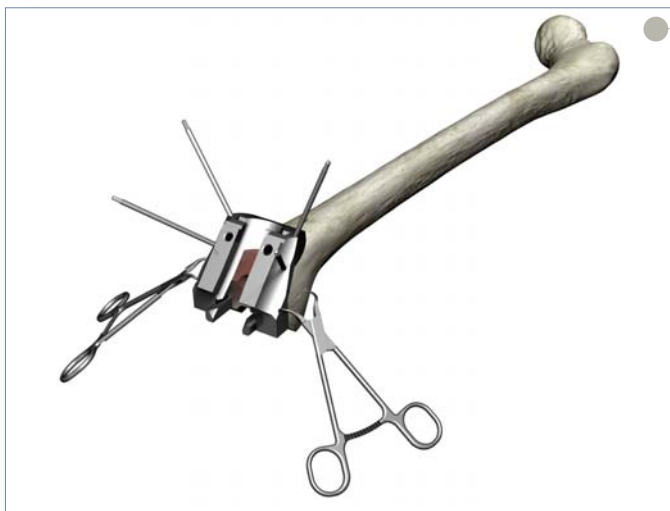

Figure 20
- ▶ Once the Notch Block is seated flush against the anterior, anterior chamfer and distal cuts of the femur, drill 1/8" headless pins through the angled holes ("X") on the anterior and/or anterior chamfer surfaces of the block (there are 4 "X" holes each at 15°) (**Figure 20**).